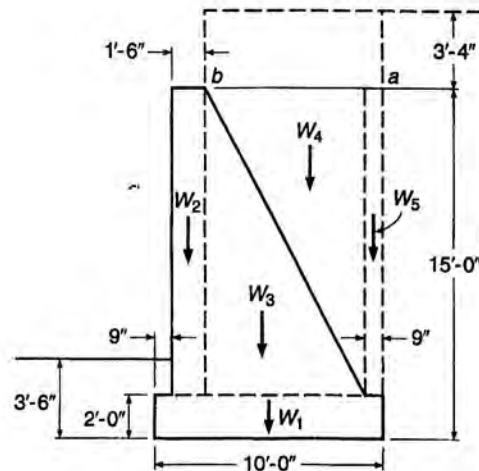

Fig: 6
8. A gravity wall shown in (**Fig: 6**) is to retain a bank 11.5 ft high whose horizontal surface is subject to live load surcharge of 500 psf. The soil is stiff clay and the allowable bearing capacity is 8.5 ksf. Determine whether the retaining wall is safe against overturning.